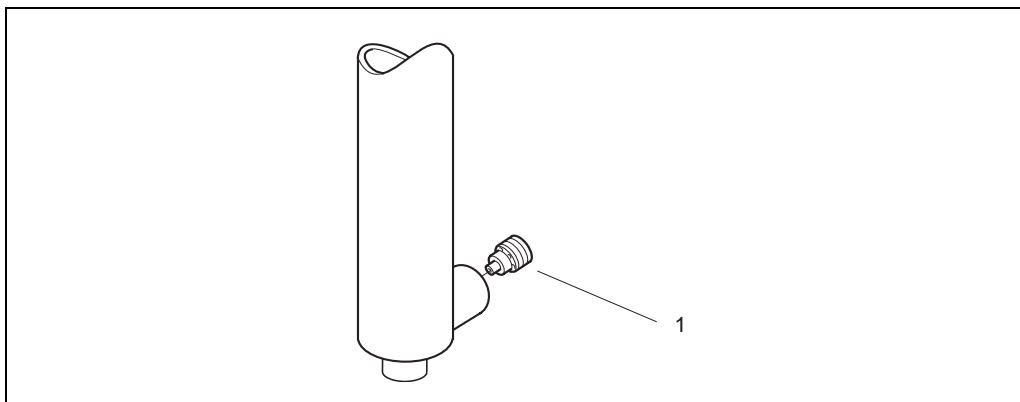

Figure 8.3 Hose rupture valve
5. Unscrew the hose rupture valve, pos. 1 figure 8.3, that is screwed into the cylinder.